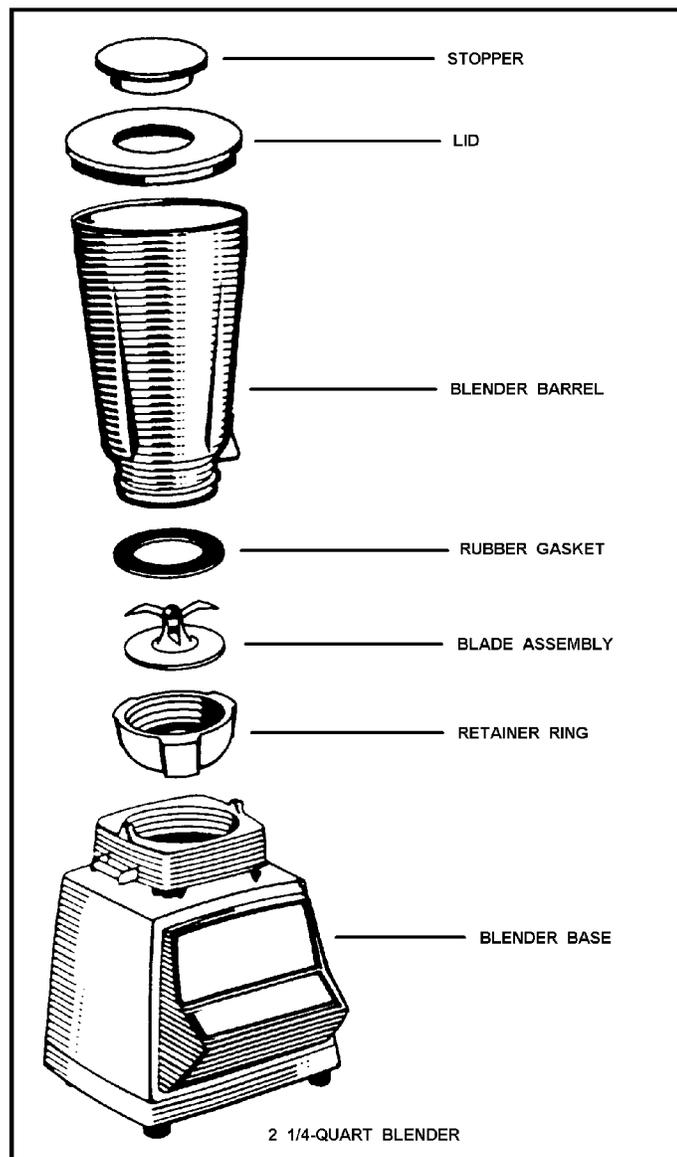

Figure 2-23.
- b. 2-1/4 quart blender. (See Figure 2-23.)